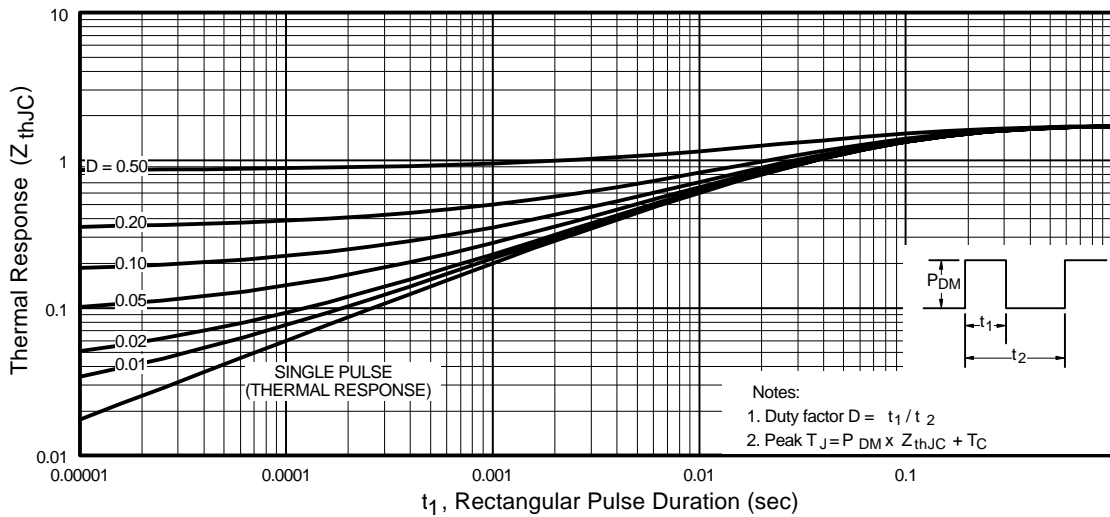

Fig 11. Maximum Effective Transient Thermal Impedance, Junction-to-Case
- ① Repetitive rating; pulse width limited by max. junction temperature. (See fig. 11)
- ② Starting $T_J = 25^\circ\text{C}$, $L = 19\text{mH}$